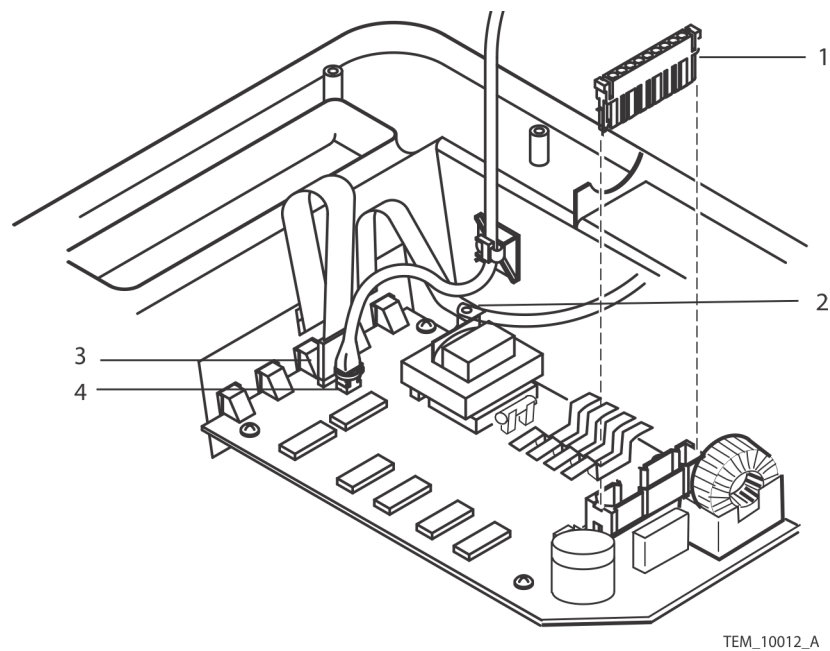

Figure 36. Cable Connections
- Connect the ribbon cable (Figure 36, item 3).
11. Install a cable tie around the thermistor cable connector (Figure 36, item 4) and Control PCB connector to secure the thermistor cable to the PCBA.
12. Connect the 9-pin connector to the Control PCB (Figure 36, item 1).